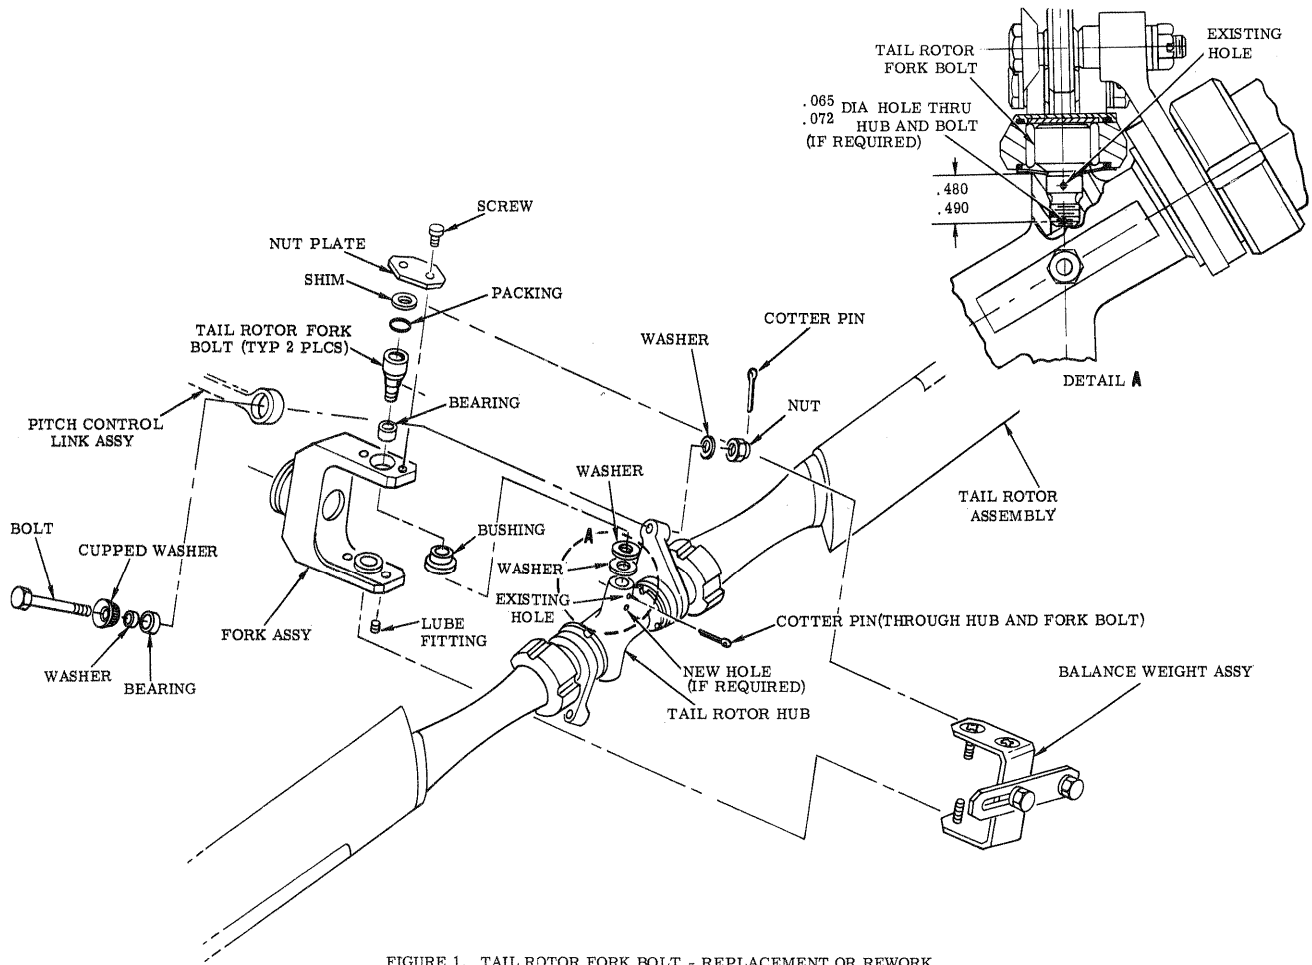

FIGURE 1. TAIL ROTOR FORK BOLT - REPLACEMENT OR REWORK
(1) If new undrilled fork bolt is installed, torque bolt to 160-190 inch-pounds and drill #51 hole through bolt. Use existing cotter pin hole in tail rotor hub as pilot hole.
(2) If existing fork bolt is reinstalled and cotter pin holes in bolt and hub will not align, drill new #51 hole through tail rotor hub and threaded portion of bolt shank, per dimensions shown in Figure 1, Detail A.
(3) If fork bolt already has two cotter pin holes drilled through shank and neither hole will align with holes in hub, install new undrilled bolt, per substep (1) above.